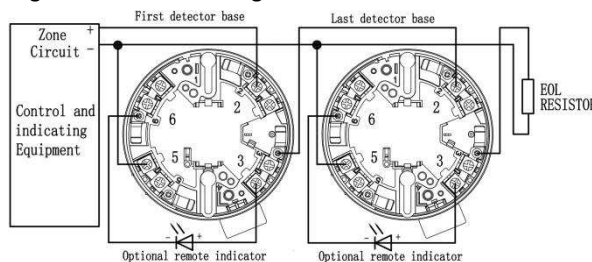

Fig. 2: 2-wire base wiring connections with remote led
- b. See Fig. 2 for detectors using 2-wire bases with remote led.